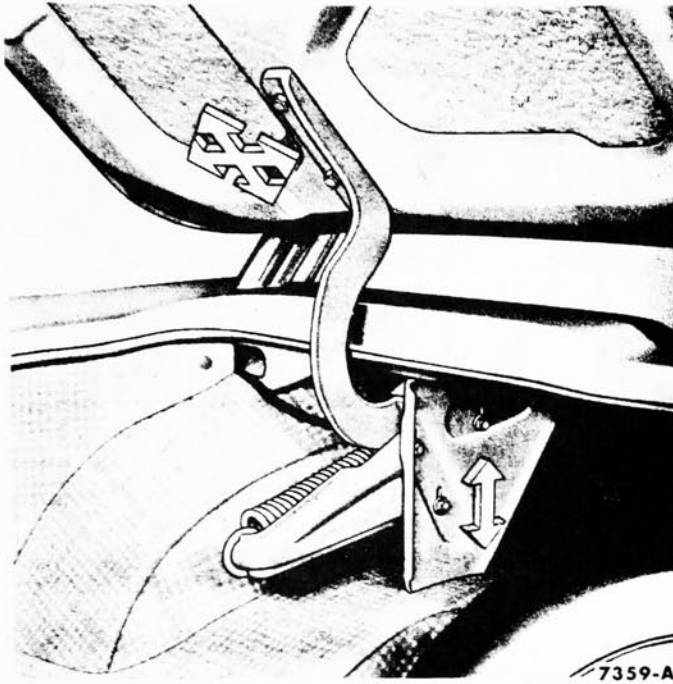

FIG. 10—Deck Lid Hinge and Adjustments—Model 63
2. Remove the hinge to deck lid bolts (Fig. 10), and remove the deck lid. Remove the deck lid ornament
The deck lid can be shifted fore and aft, up and down, and from side to side as shown in Fig. 10. Care should be taken not to distort or mar the deck lid or body panel so that an unsightly appearance results.